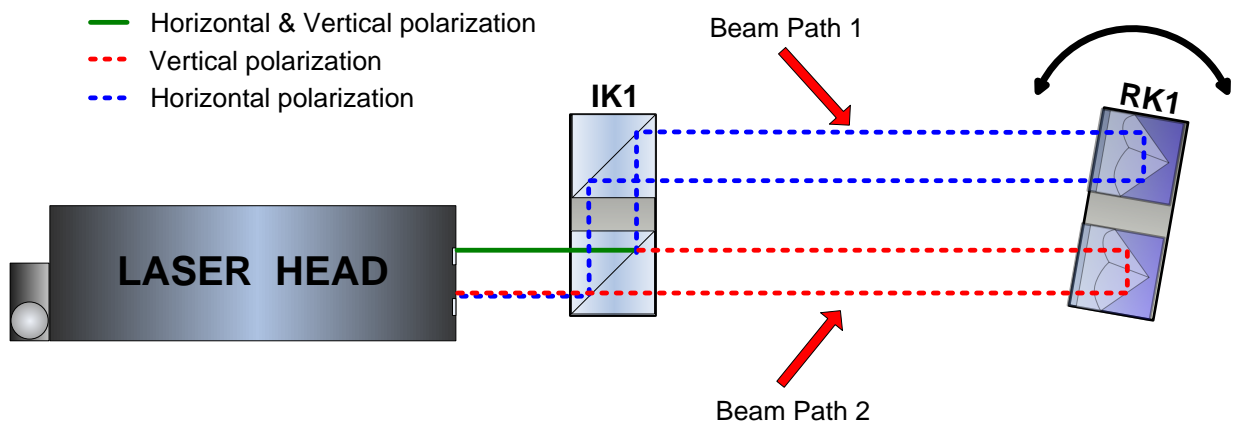

FIG.7.1. ILLUSTRATION OF THE PRINCIPLE OF OPERATION - ANGULAR OPTICS
The operation of the HPI-3D with the angular optics used is shown in the Figure 7.1. The laser outputs the laser beam consisting of two polarizations: Horizontal (H) and Vertical (V). The IK1 splits the beam into two parts. Both beams are directed into the measurement path but are parallel shifted by 1'' or 2'' distance (depending on the version).